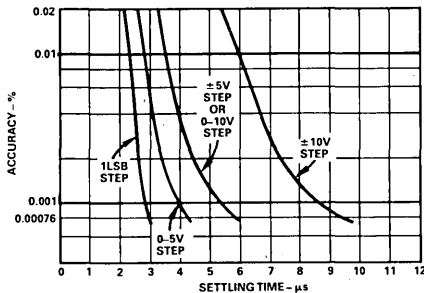

Figure 5. Voltage Settling Time vs Accuracy
**Settling Time:** Settling time is the total time for the output to settle within an error band around its final value after a change in the input. Settling times for the DAC1146 are specified to ±0.00076% of full-scale for any step change (see Figure 5).